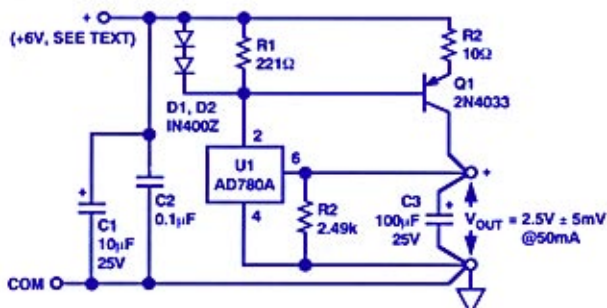

Figure 14. 50-mA current-boostered three-terminal reference with current limiting.
**Current-boostered 50-mA three-terminal reference:** For highest dc accuracy, output current of reference ICs should be kept well within the 10-mA rating. Thus for loads of substantially more than about 5 mA, some form of booster should be considered. This can be accomplished with the addition of a PNP pass transistor, as shown in Figure 14.